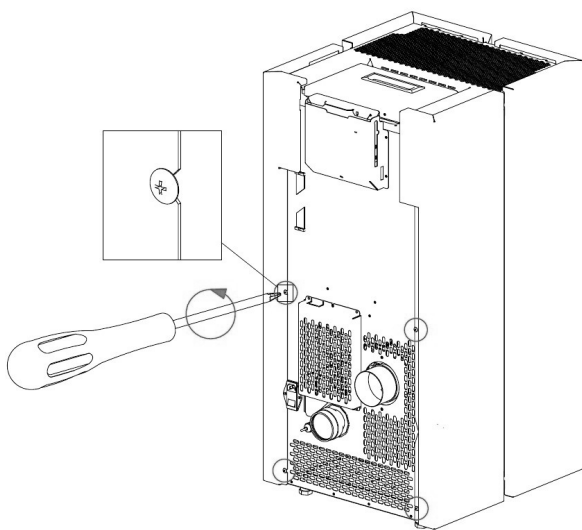

Fig. 51 - Remove screws
- Loosen the 4 back screws (see **Fig. 51**).